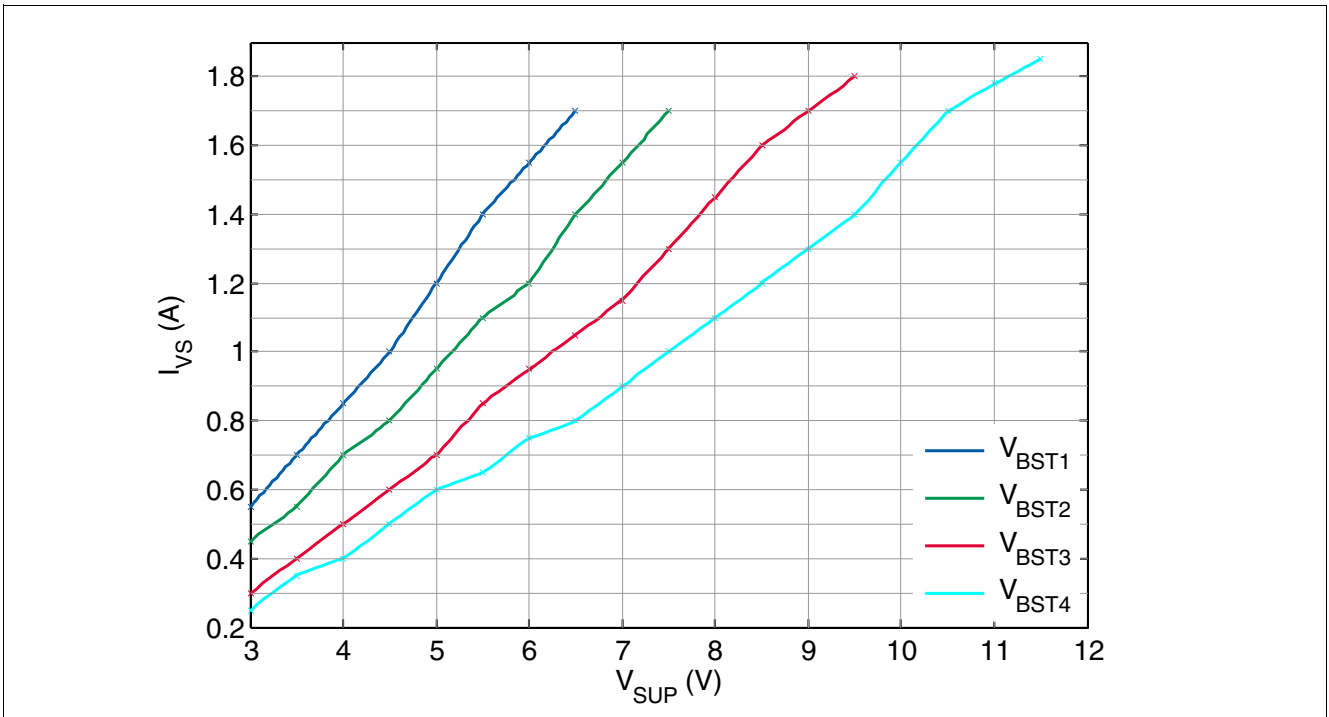

Figure 14 Maximum DCDC Boost current capability versus V_{SUP}
2) Values verified in characterization with Boost converter external components specified in Chapter 14.1. No subject to production test; specified by design. Refer to Figure 14 for additional information.
Note: **Figure 14** is based on simulation results (specified by design), with Boost converter external components specified in **Chapter 14.1**.